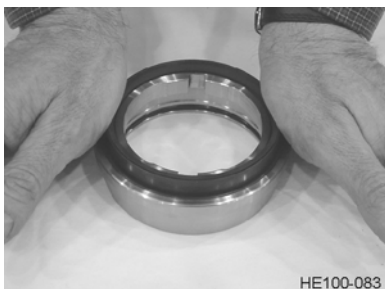

Figure 55 - Press Insert Down Evenly with Both Hands
2. Push the Seal Body Insert down evenly with both hands until it bottoms out. See Figure 55.